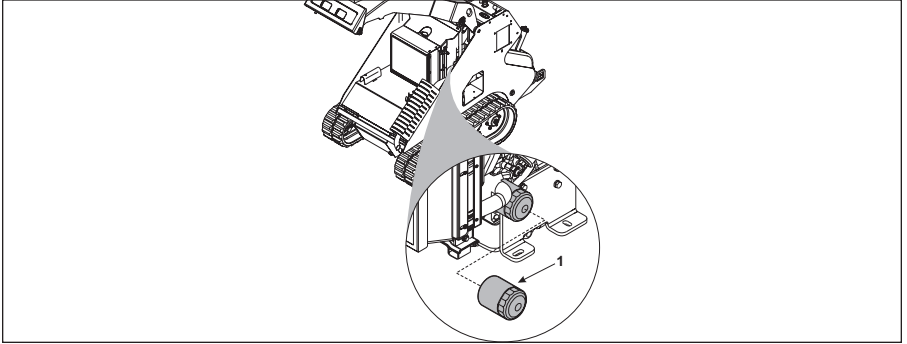

Figure 4-14 Engine Oil Filter
2. Change engine oil filter, which is located on the left side of the - engine. Refer to the engine manual for the proper engine oil filter changing instructions. The oil filter is located at the front of the engine (Item 1, Figure 4-14).